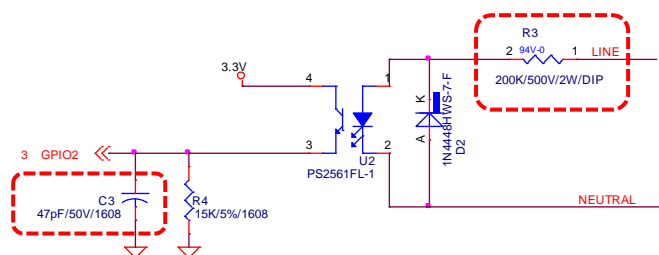

Figure 3-6 Example of a zero-cross detection circuit
- Figure 3-6 shows an example of a zero-cross detection circuit used in a PLC board.